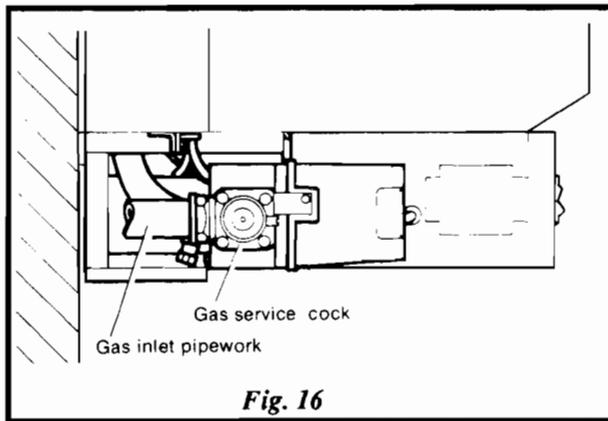

Fig. 16
14.15 Connect the gas supply - see Fig. 16.